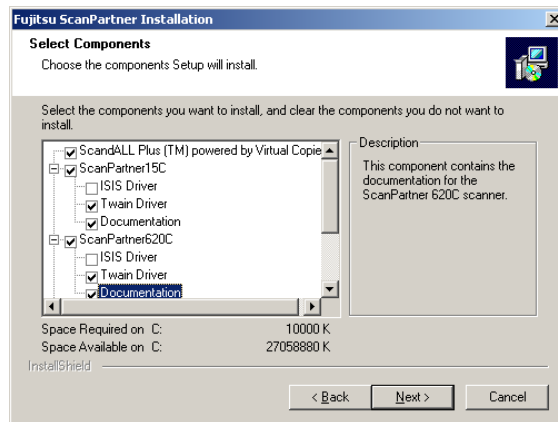

Figure 32. Select Components to Install
- 3 Select the options for **ScandAll**, **TWAIN Driver**, and **Documentation**, then click **Next** as shown in Figure 32.